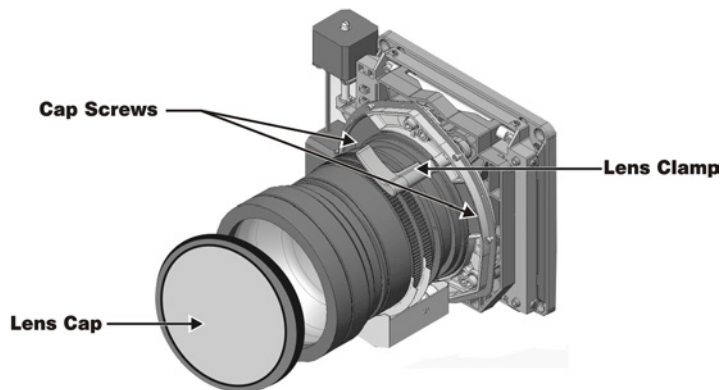

Figure 7-6 Release Lens Clamp
4. Install the lens cap and release the lens clamp by pushing it up (**Figure 7-6**).
5. If necessary, remove the 2 cap screws securing the lens to the lens mount (**Figure 7-6**). The cap screws are only needed when the cinema projector is ceiling mounted.